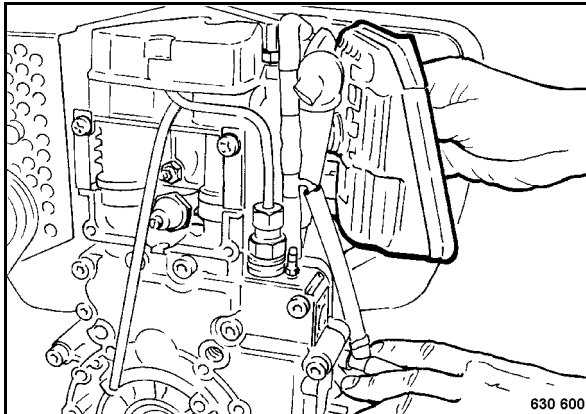

Fig. 75
- remove the air filter bracket (Fig. 75).